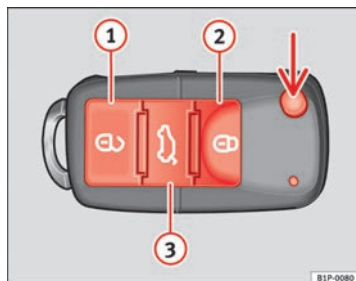

Fig. 62 Assignment of buttons on the remote control key
Using the button $\Rightarrow$ fig. 62 (arrow) on the control, the key blade is released.
Unlocking the vehicle $\Rightarrow$ fig. 62 ①. The doors and the tailgate are unlocked.
Locking the vehicle $\Rightarrow$ fig. 62 ②
Unlocking the tailgate. Press button $\Rightarrow$ fig. 62 ③ until all the turn signals on the vehicle flash briefly. When the unlocking button $\Rightarrow$ fig. 62 ③ is pressed, you have 2 minutes to open the door. Once this time has passed, it will lock again.
Also, the battery indicator on the key $\Rightarrow$ fig. 62, will flash.
When the button $\Rightarrow$ fig. 62 ① is pressed once the driver door is unlocked, all others remain locked.
Press the button $\Rightarrow$ fig. 62 ① twice to unlock all doors.
- Press the  → fig. 62 button on the remote control.